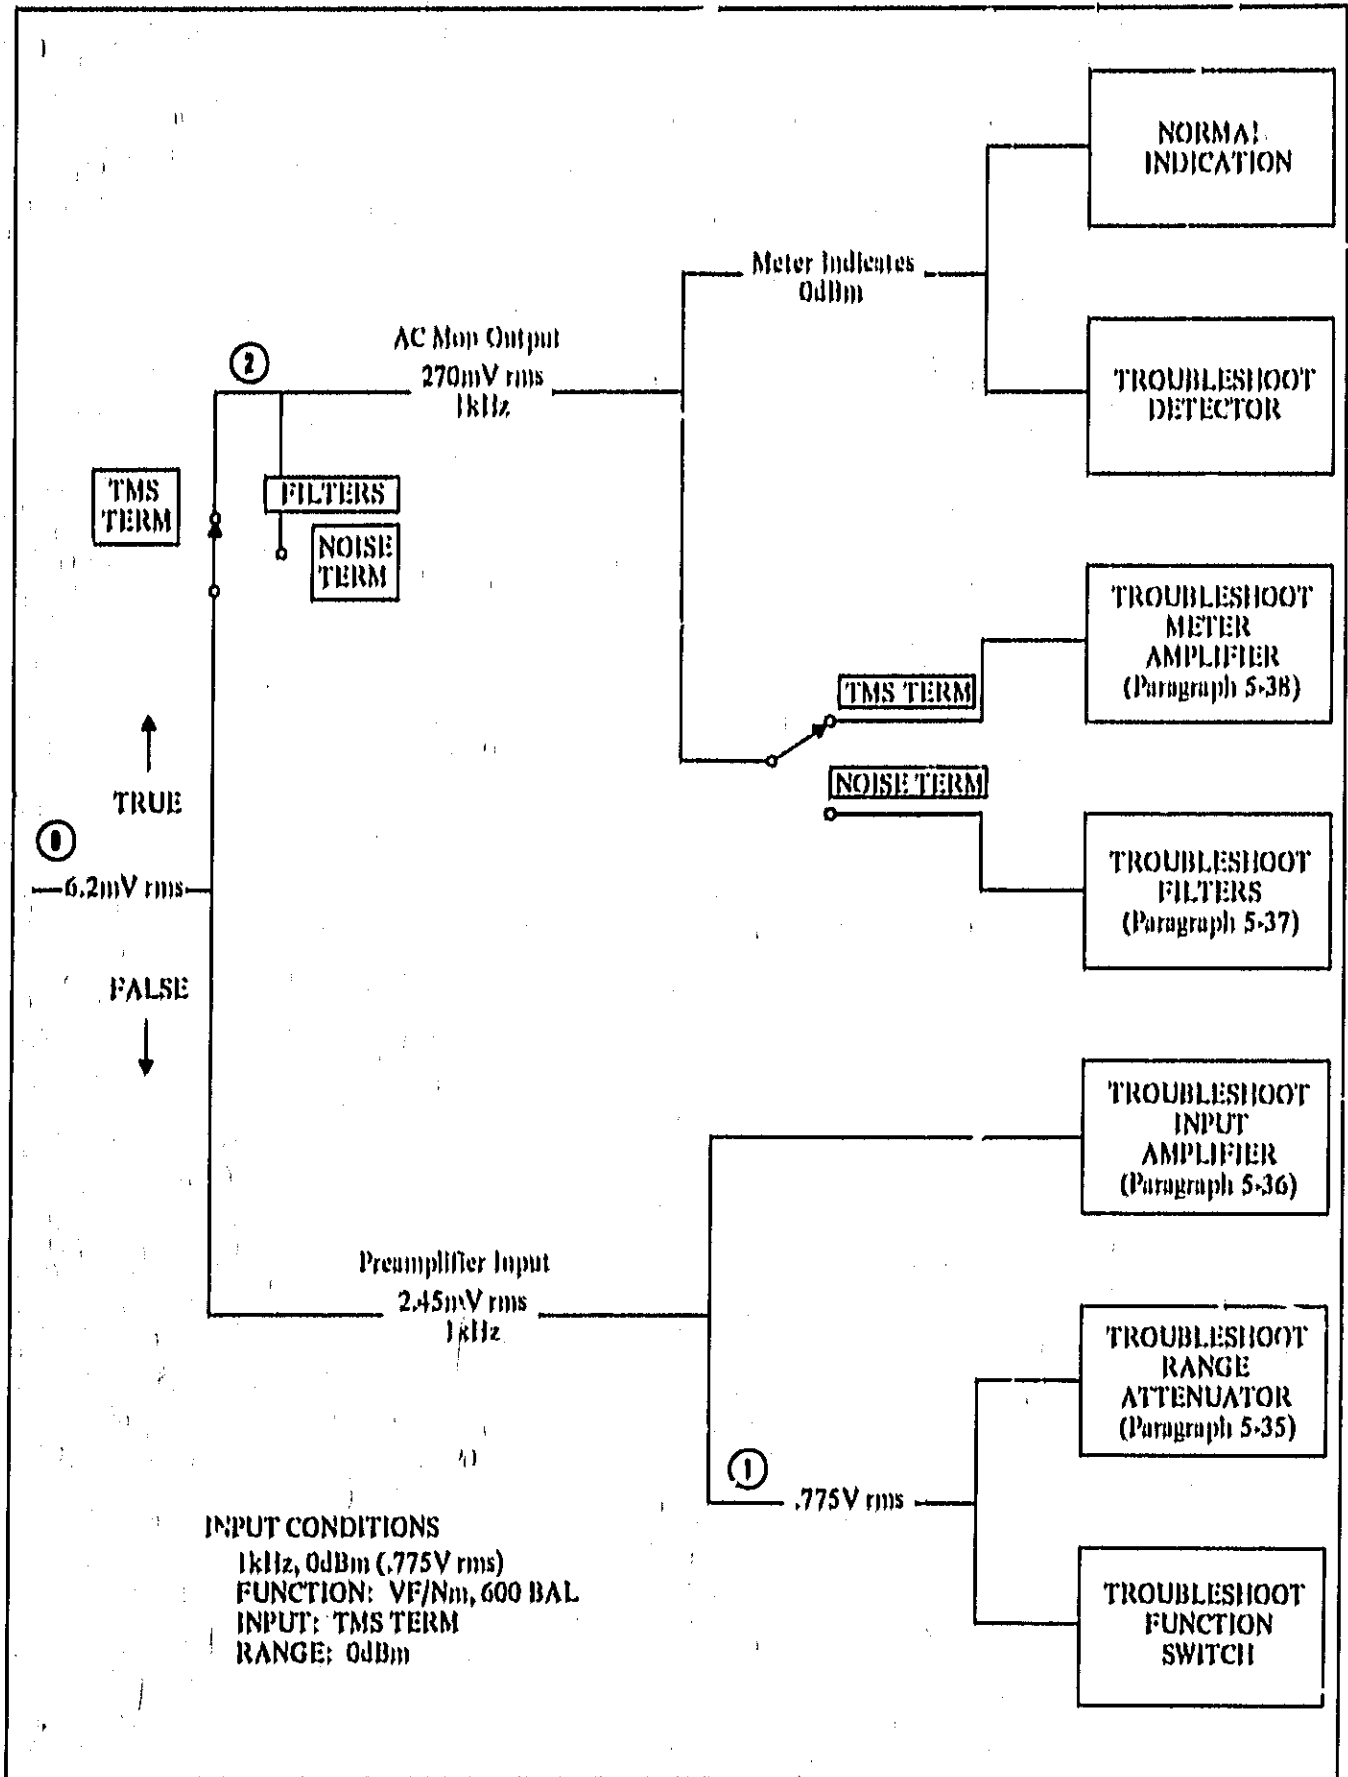

Figure 5-8. Troubleshooting Tree
- a. Troubleshooting Tree - The troubleshooting tree (Figure 5-8) is based on the half-split method of troubleshooting a set. The trouble can be isolated to a general area or block using this tree. Once the trouble has been isolated to an area, a reference is given to a paragraph where more specific information can be found.
- Inject a 1kHz, 0dBm signal (0.775V rms) into the 3555B and set the INPUT switch to TMS TERM, RANGE to 0dBm and the FUNCTION to VF/Nm, 600 BAL. Measure the signal at the input of the meter amplifier (XA3 pin 9). The signal level should be 6.2mV rms. If not the malfunction is ahead of the meter amplifier (refer to troubleshooting tree, Figure 5-8).